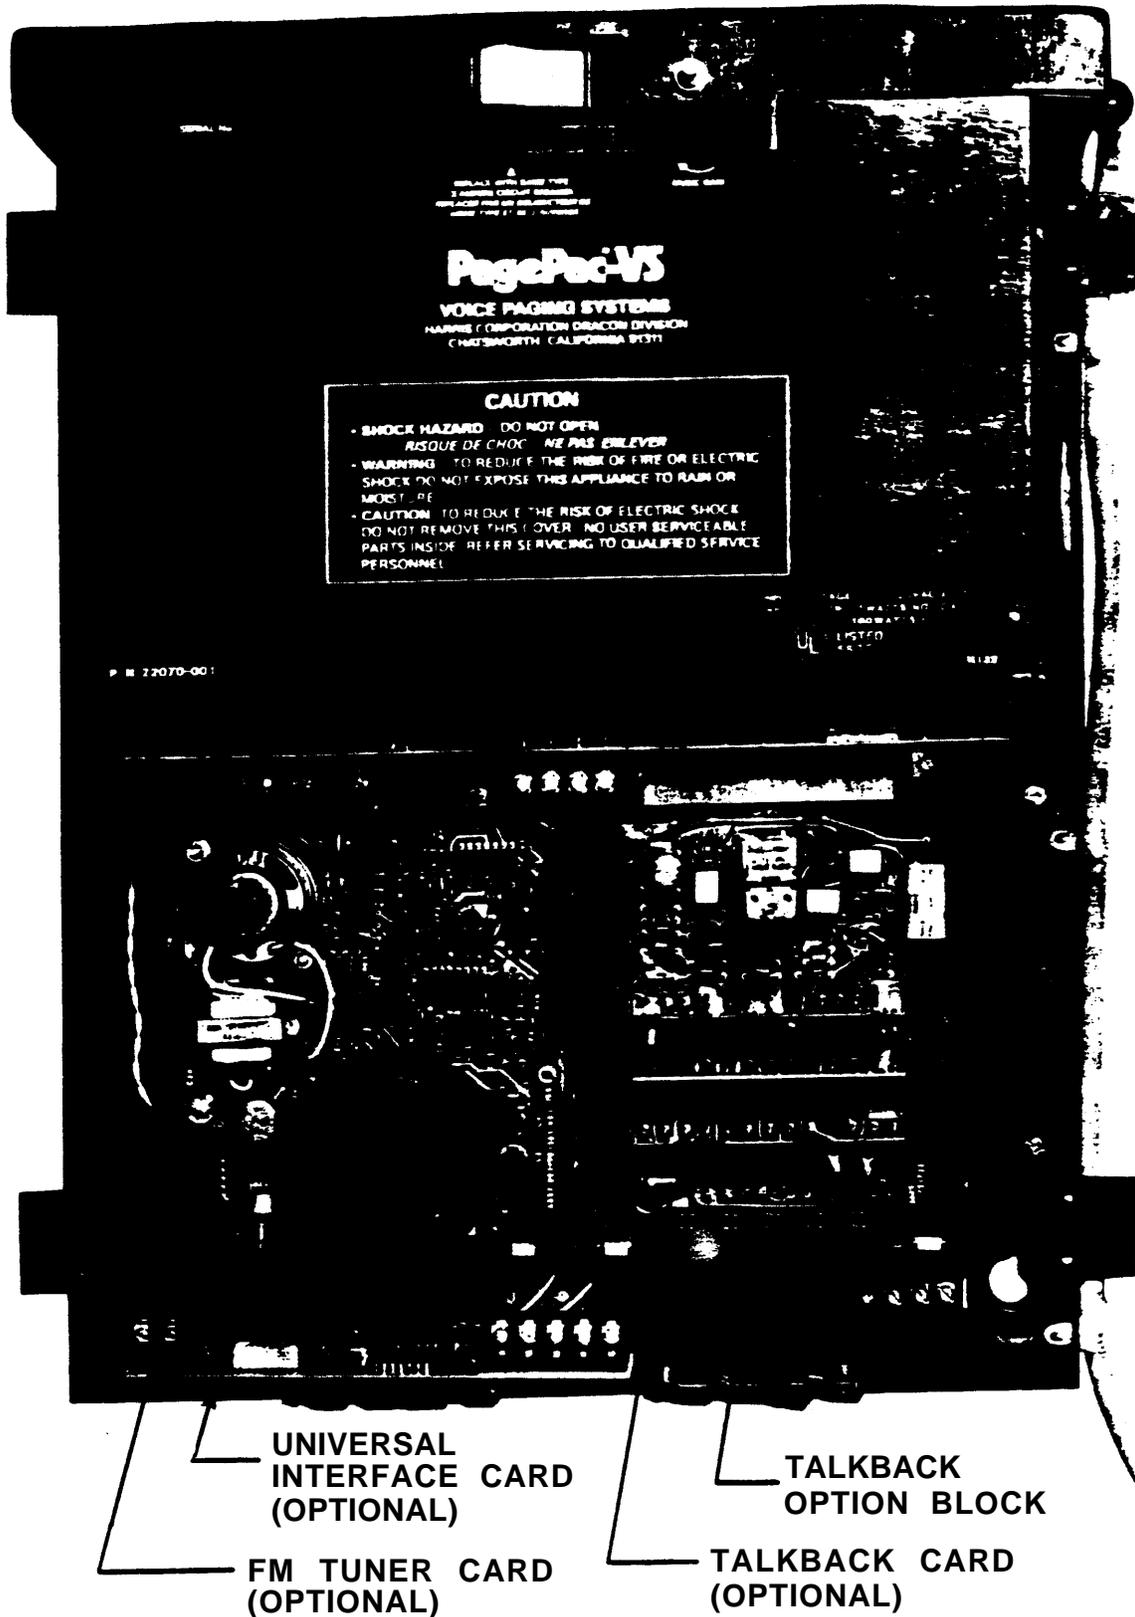

Fig. 1—Fully-Equipped PagePac® VS with Cover Removed
1.04 The PagePac® VS (Fig. 1) provides three separate paging zones plus all-call paging into all three zones at once. Talk-back is optional as is an FM tuner for background music and music-on-hold. Also optional is an interface card for trunk or station access from a PABX. The complete system comes mounted in a wall cabinet and the only additional materials required are the loudspeakers and the speaker wire.